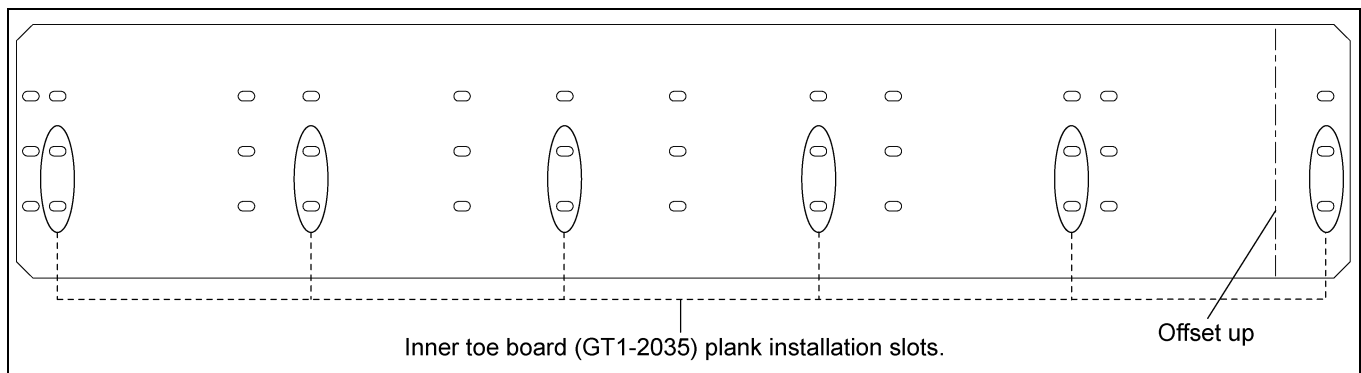

Figure 4K 18' Inner Toe Board (GT1-2035)
3. Inner toe board (GT1-2035) is arranged with many slots to install plank. Install planks to corresponding slots as shown in Figure 4K.